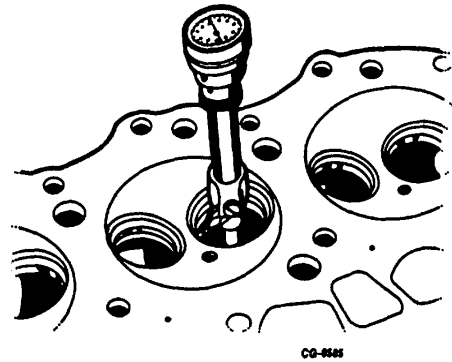

Figure 43. Checking Seat Run-Out
22. After grinding seats, check each seat for run-out using dial indicator or run-out gauge from SE-1631 seat grinder set (Figure 43). Seat run-out should not exceed specified limits (see SPECIFICATIONS).